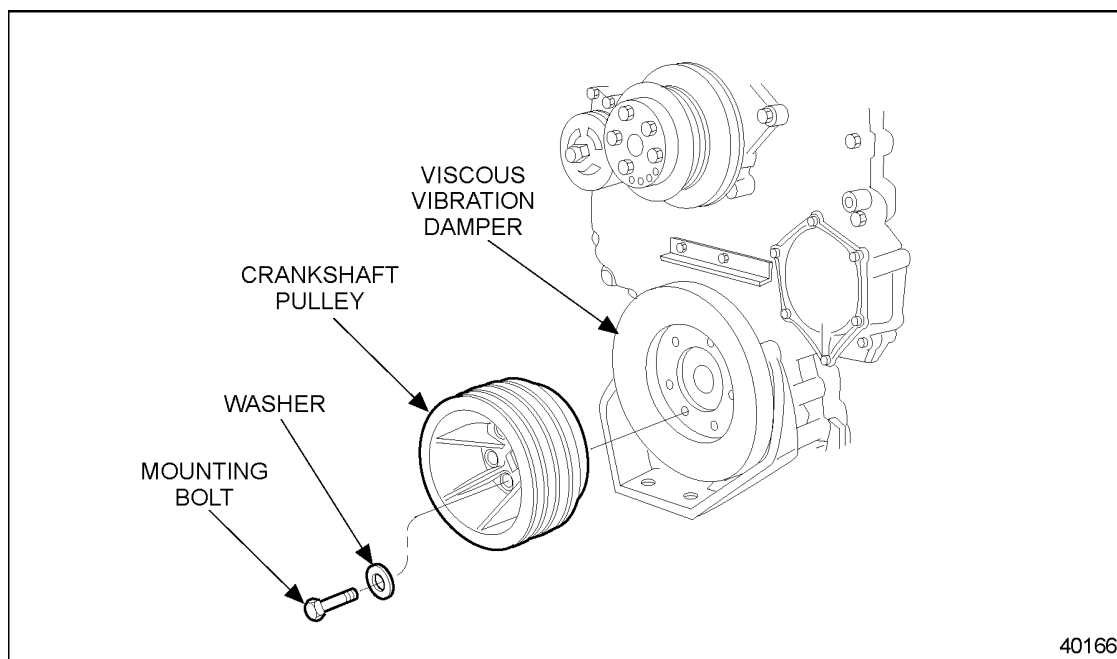

Figure 1-203 Crankshaft Pulley Mounted Directly to the Crankshaft
6. Remove two of the six crankshaft pulley-to-crankshaft attaching bolts and hardened washers that are 180 ° apart. Discard the bolts. These bolts are not reusable. See Figure 1-203.